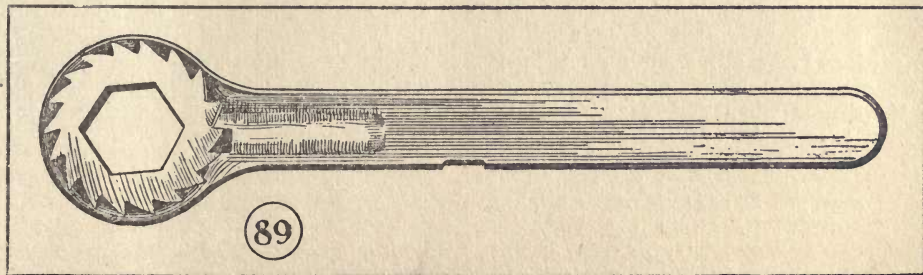

Fig. 89—Reverse and brake pedal tension spring ratchet wrench
13.—In adjusting the clutch and brake, a ratchet wrench saves a great deal of time over a solid wrench. This is made especially thin so that it can be easily put in or taken out. This is shown in Fig. 89.